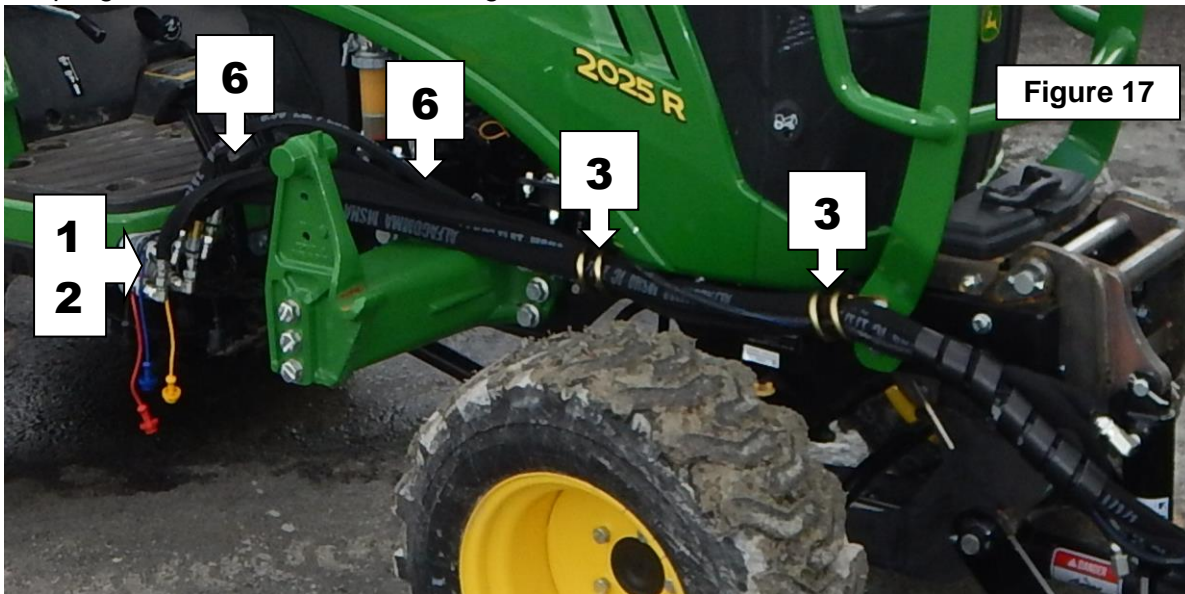

Figure 17
1. Gather all items listed in the table on figure 17.
2. **Figure 17:** Insert the hoses (items 1 and 2) in the two hose supports (item 3). Connect the hose from the upper cylinder port (item 2) to the lower outer coupler of the tractor valve and the lower cylinder hose (item 1) to the upper outer coupler of the valve as shown on the figure 17.
4. **Figure 17:** Secure the two hydraulic hoses with two 8" lg. x 4.8mm nylon tie wraps (item 6) at the locations shown on the figure and cut off the excess material.